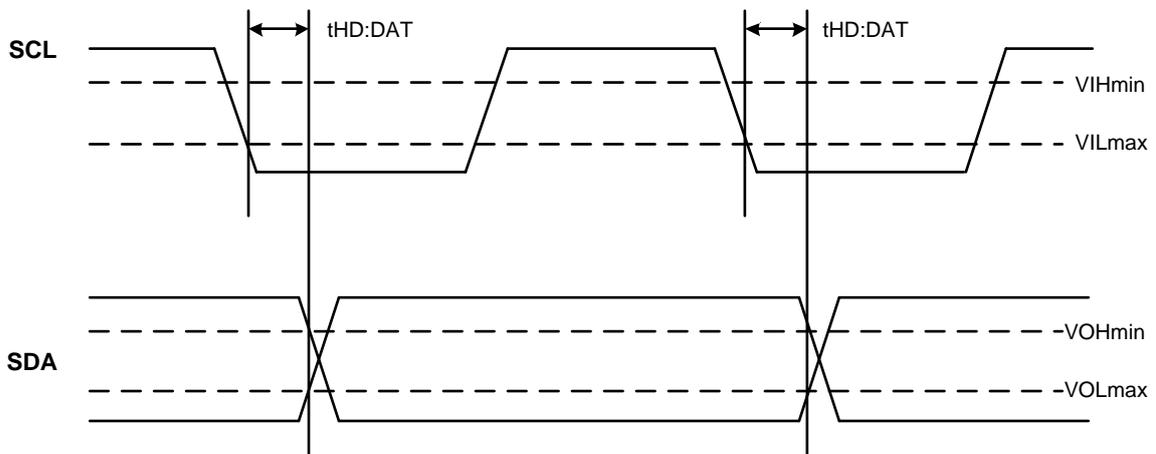
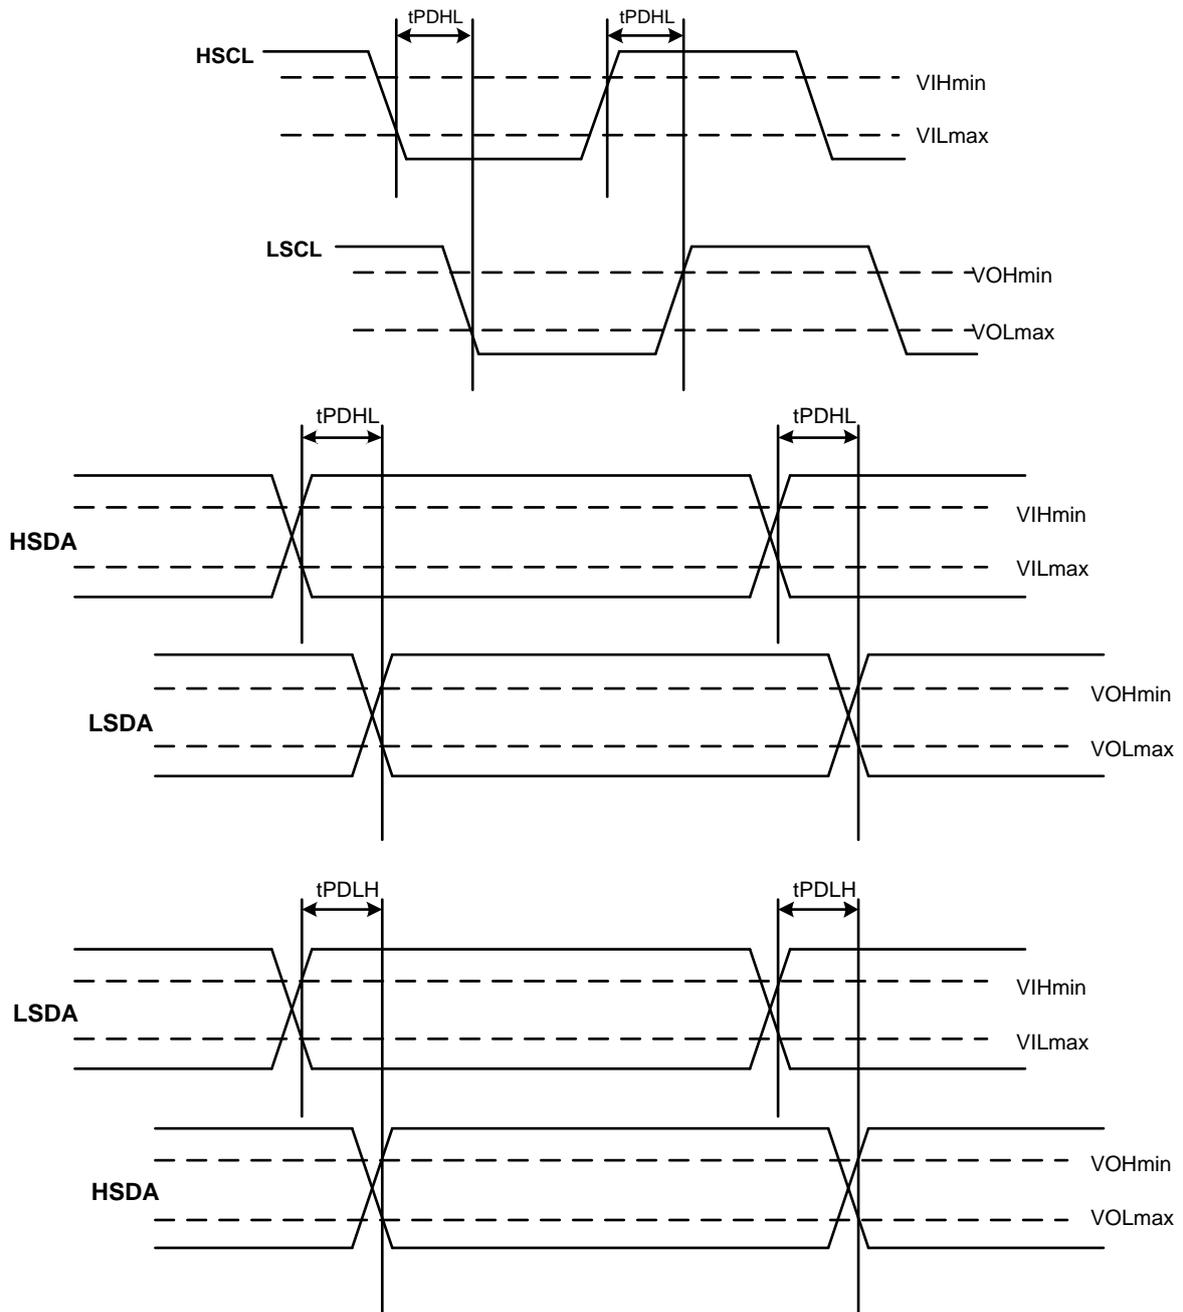

Figure 20. I²C Bus AC Data Output Timing Parameter Definition
Figure 27. Propagation Delay through the SPD5 Hub Device
3. Output slew rate is guaranteed by design and / or characterization. The output slew rate reference load is shown in Figure 20. I2C Bus AC Data Output Timing Parameter Definition
6. See Figure 27 for timing definition. See Figure 20. I²C Bus AC Data Output Timing Parameter Definition
11. for output timing parameter definition. See Figure 20. I²C Bus AC Data Output Timing Parameter Definition
13. The SPD5 Hub device must be configured in I³C Basic mode to guarantee t_{DOFFT} value. See Figure 8. See Figure 20. I²C Bus AC Data Output Timing Parameter Definition
16. See Figure 20. I²C Bus AC Data Output Timing Parameter Definition